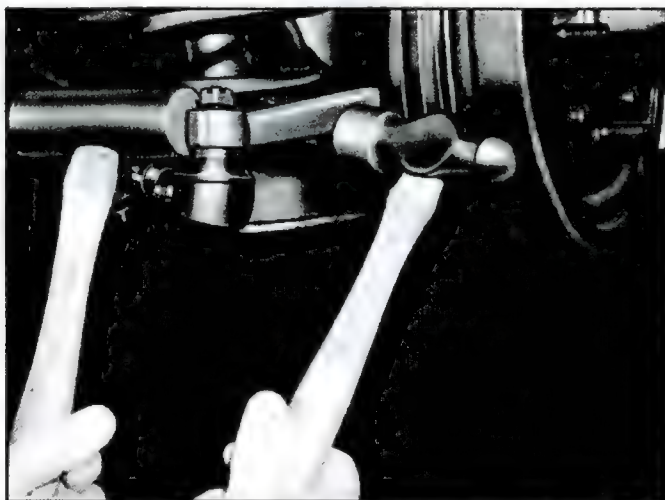

Fig. 23—Freeing Ball Stud
2. Free ball stud from steering arm by backing up boss with a large hammer or dolly and striking opposite side with hammer of slightly lighter weight (fig. 23).